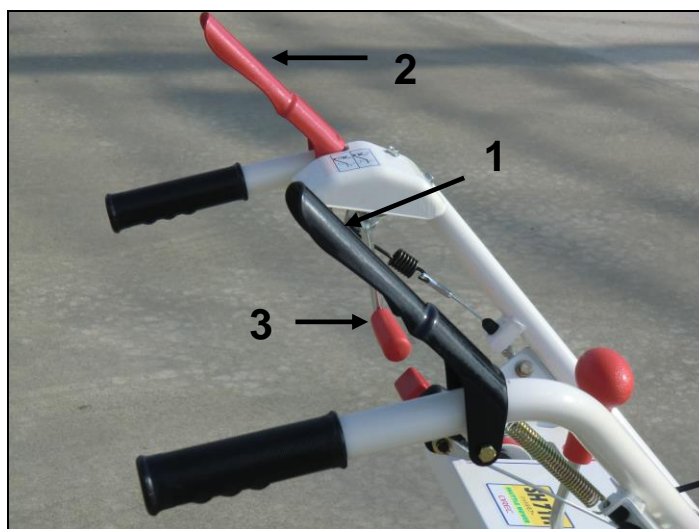

Figure 7
- Push slowly cutting blade control lever (2 Figure 7 in engage position and pull up the lever (3) , then go forward in the grass to mow.